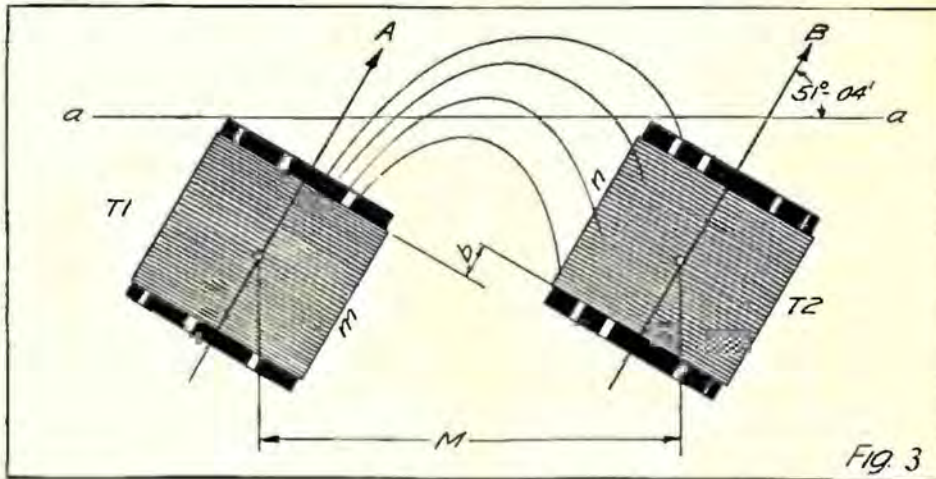

Fig. 3
In Fig. 3 we have the familiar arrangement of the coupler (T2) and the transformer (T1) as used in many radio frequency sets. The coils are turned at such an angle that the magnetic lines of (T1) cause the least possible induction in (T2). At the same time, the spacing (M) is such that the coil sides (m) and (n) do not face each other, thus avoiding capacity coupling. If (m) and (n) were opposite and parallel, instead of being offset by the distance (b), we would have troublesome capacity coupling between the two circuits which would be almost as bad as the magnetic coupling.